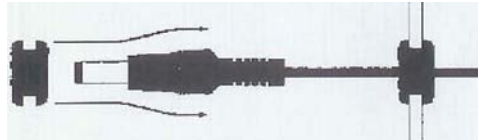

Figure 2
- 5) If necessary, route the power cord through the furnace/air handler cabinet to the filter rack area. If an existing access hole is not available, drill a 7/16" hole. A grommet is provided to fit a 7/16" hole (fig 2). The cord should be run so that it is not crimped or abraded and should have enough slack to allow the air cleaner to be easily removed for routine maintenance. Position the power cord slack to keep it away from the furnace/air handler blower and other moving parts.